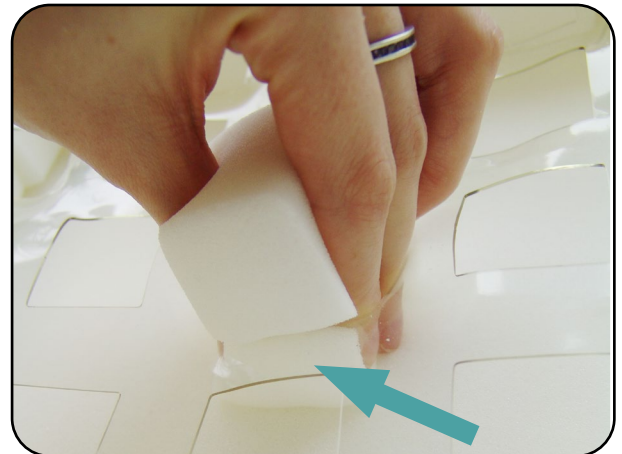

Fig. 6.3.02 – Squeezing the foam cube
2. To remove a foam cube first press together all four of its corners. When doing so, it is important to squeeze from below the centre point of the foam cube (Fig. 6.3.02).